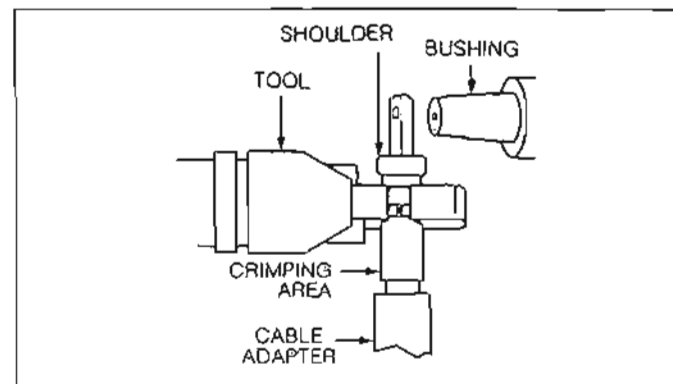

Figure 9.
- Make first crimp at the first line below shoulder of compression connector. (Refer to Figure 9.)